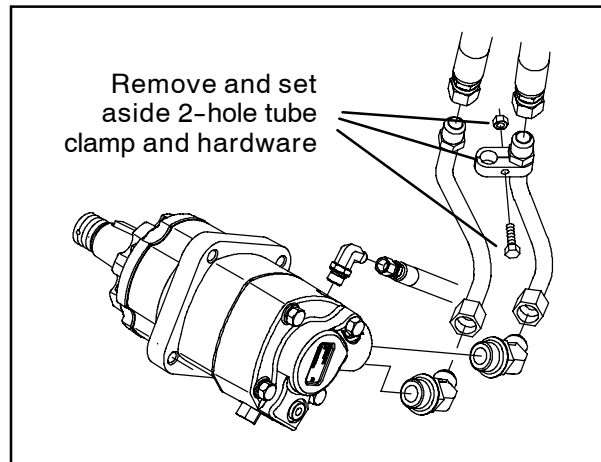

FIG. 2
2. Remove the 2-hole tube clamp from the hydraulic tubes attached to the right wheel drive motor. Set the clamp and mounting hardware aside. Refer to Fig. 2.